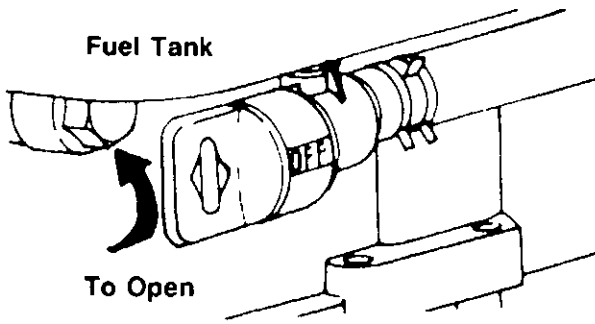

FIGURE 16.
2. The fuel shut-off valve is located beneath the fuel tank. The fuel shut-off valve should be in the open position. See figure 16. Open fuel shut-off valve if it is closed. It may be necessary to remove the discharge chute.